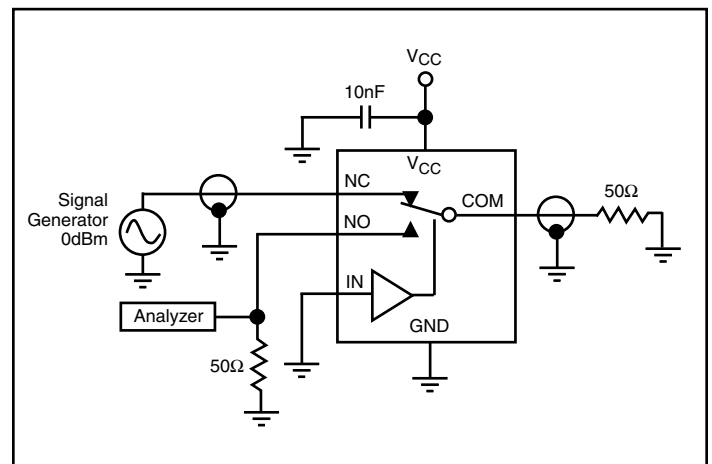

Figure 4. Crosstalk
7. Off Isolation = $20 \log_{10} [V_{COM} / (V_{NO} \text{ or } V_{NC})]$. See Figure 4.